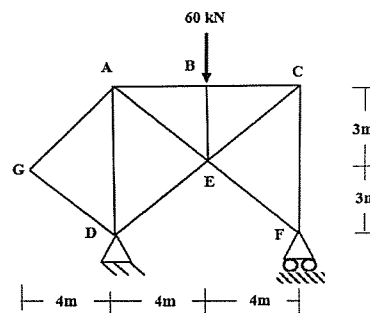

Figure 4
4. Calculate the horizontal deflection at support F of the truss in **Figure 4** by the Unit Load Method [EA=Constant]. [12]